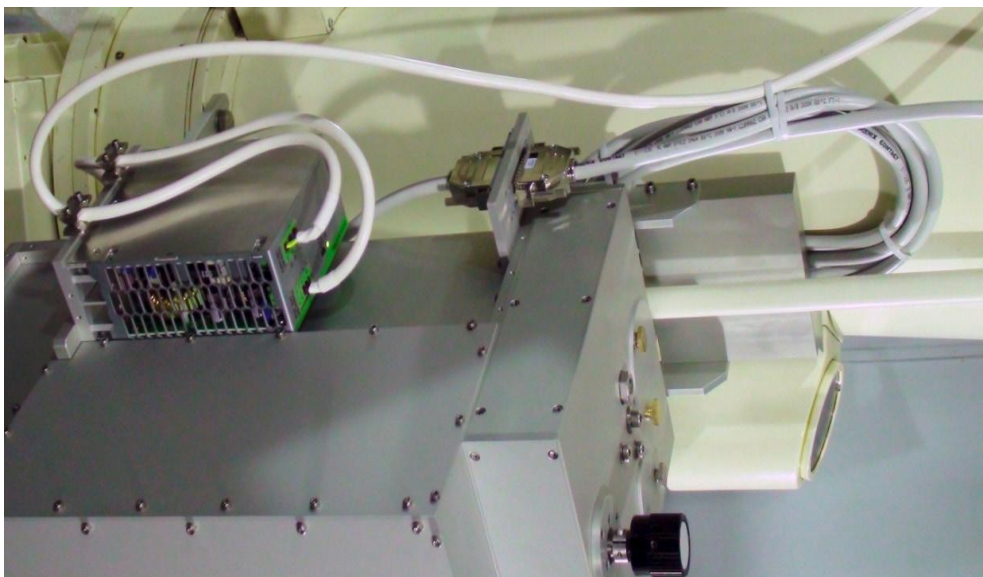

Figure 13: Cables attached to the Align-unit
**Important notice:** all 25-core cables should remain with all their connectors connected to each other also when the Co-pointing instrumentation is not in operation because the well shielded cables makes sure protection against voltage differences occurring during thunderstorms lightning, also in the case of not direct hit because of induction effects. See figure 13 for the different cables attached to the Align-unit.
**Important notice:** This plug has to be disconnected when the system is not in operation. This is necessary for protection against overvoltage by thunderstorm lightning or by failures in the 230 VAC supply system of the building. The 24 VDC power supply on the backside of the Slave-unit (see left side of figure 13) is switched on by putting the main supply plug into the 230 VAC outlet. The switch in the bottom right hand corner of the control panel of the Slave-unit (see figure 14) makes the connection between the 24 VDC power supply and the instrumentation. The switch is “OFF” in the lower position, the situation when the system is not in operation.